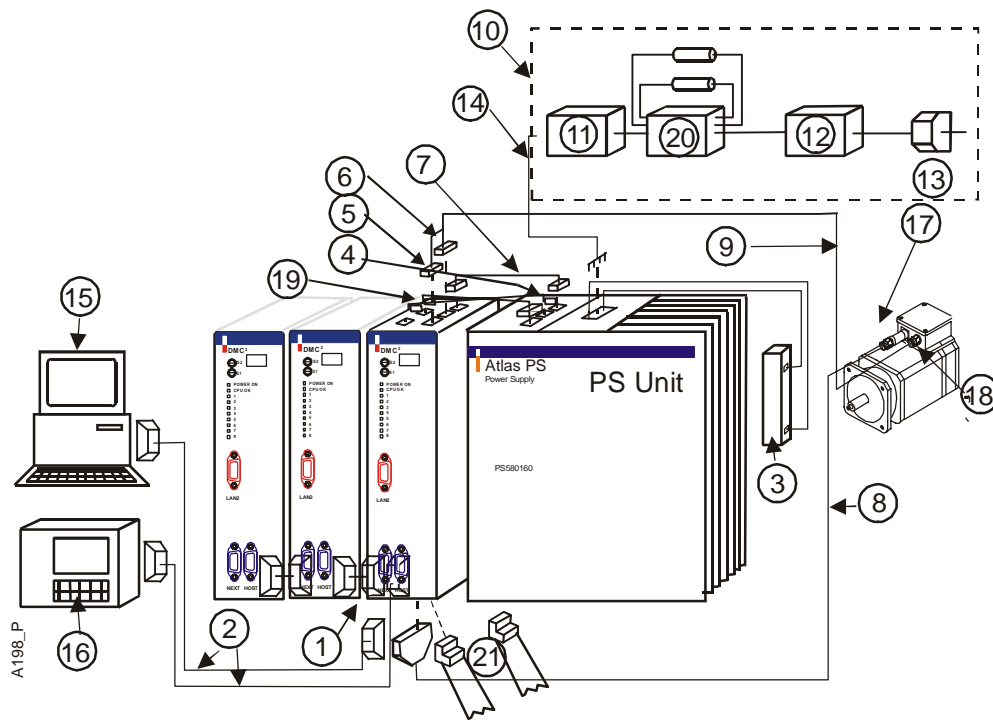

Figure 8. Example of PDS with DC supplied DMC2 unit(s) driven by stand-alone PS (power supply) unit.
- A stand-alone PS (power supply) unit supplying one or more DC supplied DMC2 unit(s) with a DC bus interface. See Figure 8.